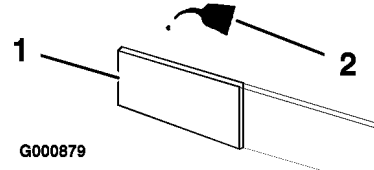

Figure 28
- C. Soak the element in new engine oil. (Figure 28). Squeeze the element to remove excess oil.